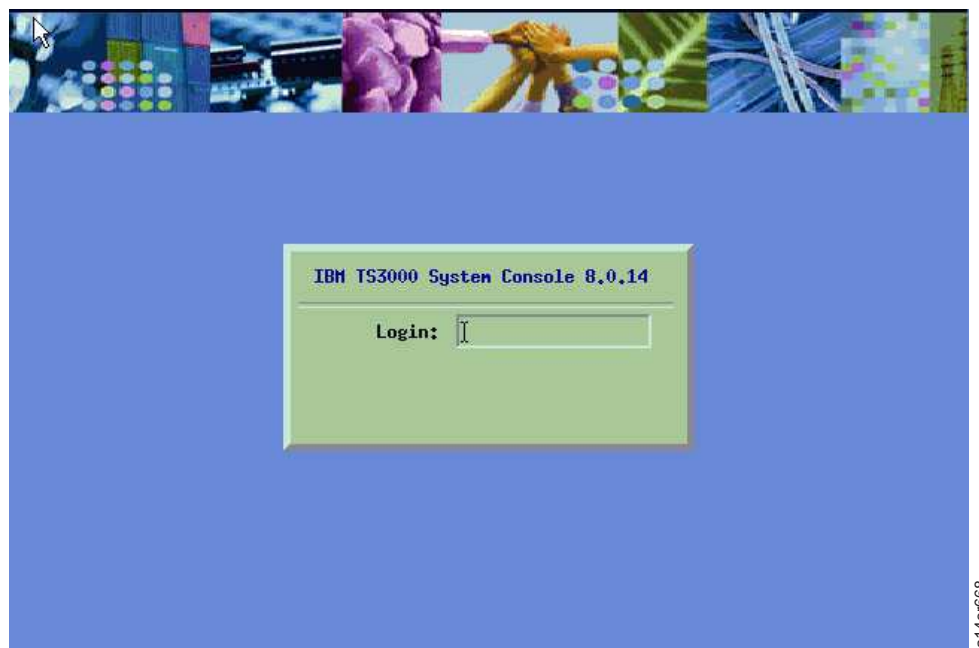

Figure 1. System Console Login screen
1. Go to the System Console Login screen to view the system console code level. See Figure 1.